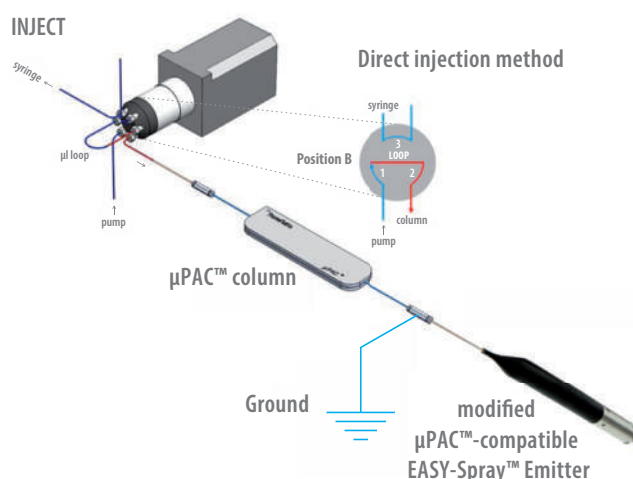

Figure 1: Installation and grounding of a  $\mu$ PAC™ column connected to a modified EASY-Spray™ emitter
- Connect the inlet of the modified emitter (*i.e.*, the stainless steel 50  $\mu$ m through-bore union) to a grounded point on the mass spectrometer or the chassis of the HPLC. A schematic overview is shown in Figure 1.